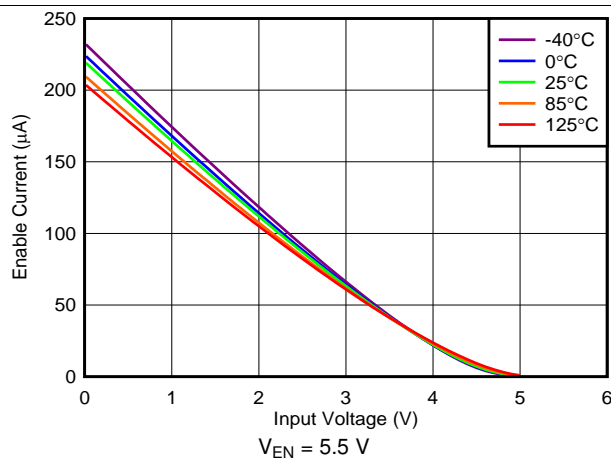

Figure 23. I_{EN} vs V_{IN}
The EN pin is independent of the input pin (IN), but if the EN pin is driven to a higher voltage than V_{IN} , the current into the EN pin increases. This effect is illustrated in Figure 23. When the EN voltage is higher than the input voltage there is an increased current flow into the EN pin. If this increased flow causes problems in the application, sequence the EN pin after V_{IN} is high, or to tie EN to V_{IN} to prevent this flow increase from happening. If EN is driven to a higher voltage than V_{IN} , limit the frequency on EN to below 10 kHz.